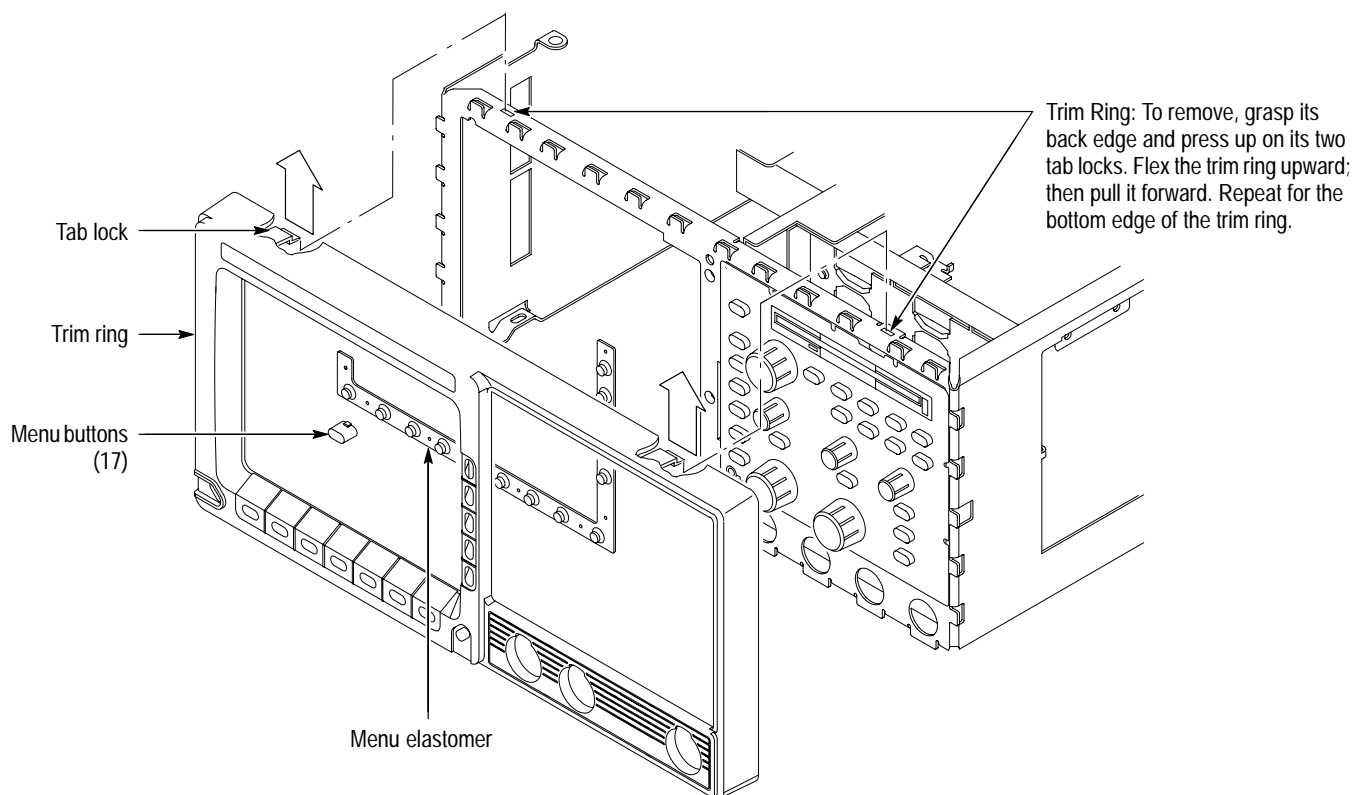

Figure 6–7: Trim ring, menu elastomer, and menu buttons removal
2. Grasp the trim ring by its top edge, pry it up, and lift it forward to snap it off the top front of the main chassis (see Figure 6–7).